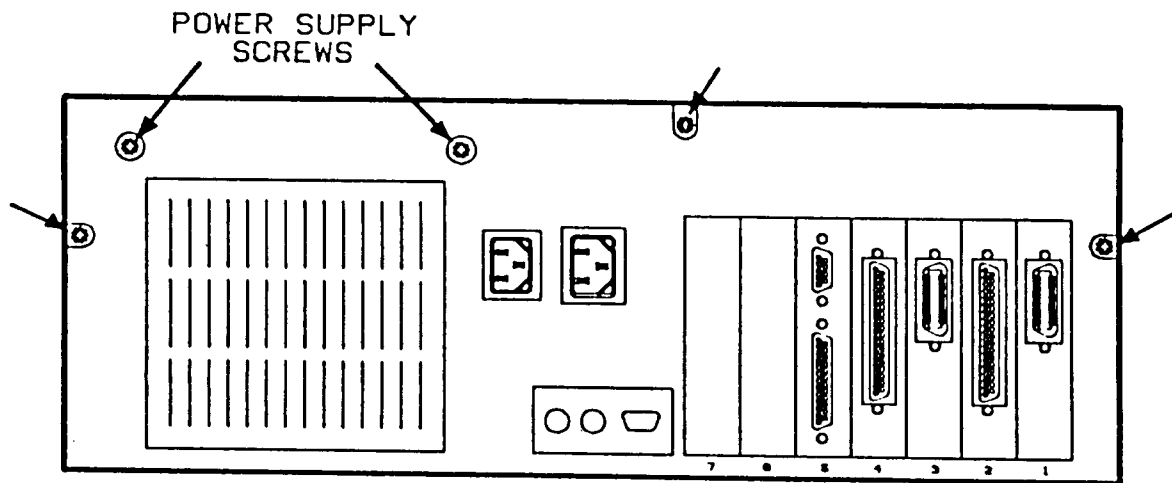

Figure 3. Cover Mounting Screws
6. Remove the Smart Interface top cover by removing the 3 screws at the rear of the Smart Interface, remove the top cover by pulling the cover towards the front of the Smart Interface as far as it will go and then lift the cover straight up. See Figure 3 for screw locations.